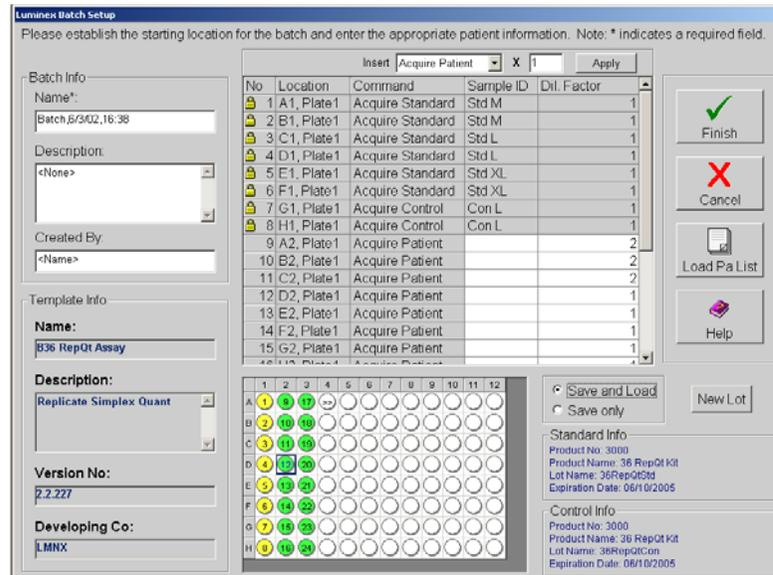

Figure 27 Luminex Batch Setup Window
3. Double-click the template you want to apply to the new batch. The template loads, and the **Luminex Batch Setup** window opens. See Figure 27.